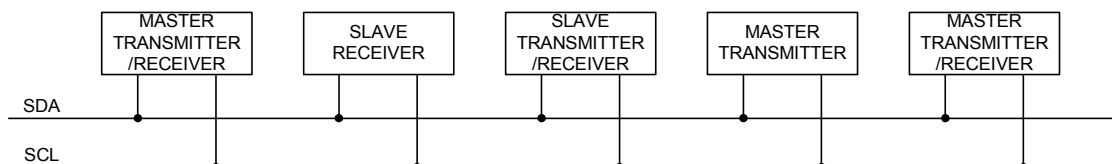
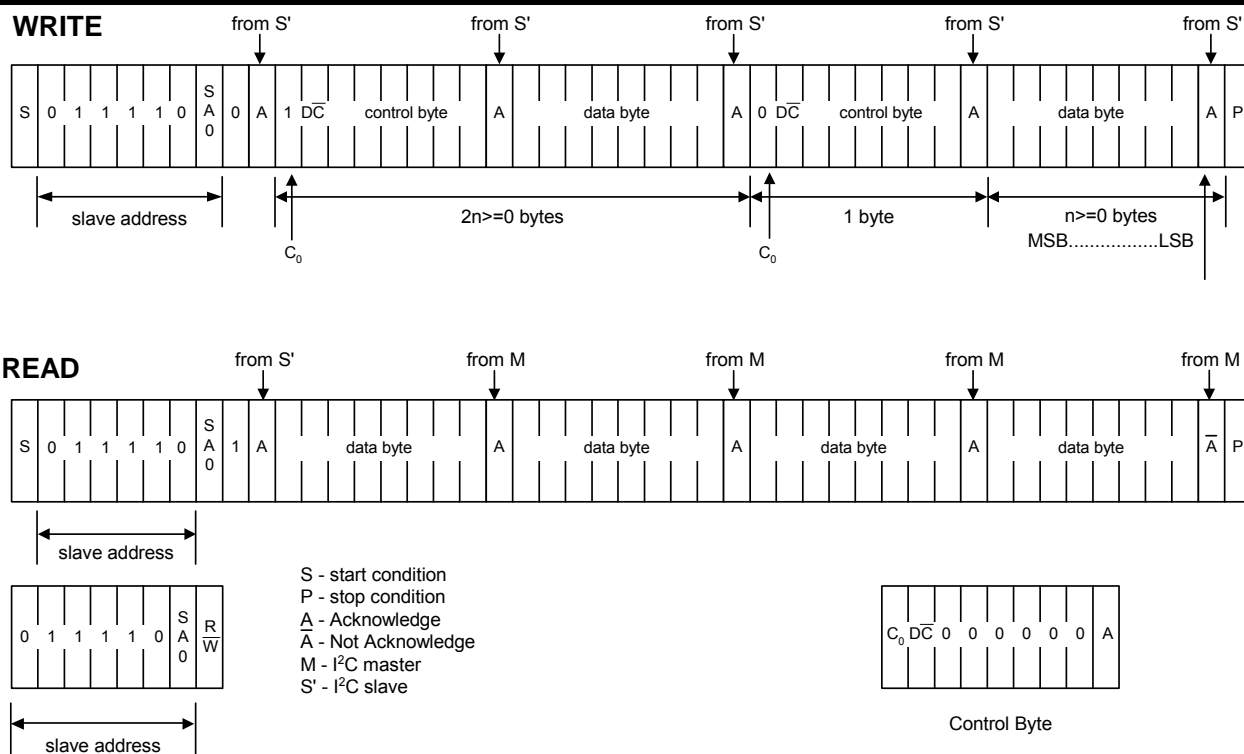

Figure 7 System configuration
Figure 9 I2C Protocol
The SH1108 supports both read and write access. The  $\overline{R/\overline{W}}$  bit is part of the slave address. Before any data is transmitted on the I2C-bus, the device that should respond is addressed first. Two 7-bit slave addresses (0111100 and 0111101) are reserved for the SH1108. The least significant bit of the slave address is set by connecting the input SA0 to either logic 0(GND) or 1 (VDD). The I2C-bus protocol is illustrated in Fig.7. The sequence is initiated with a START condition (S) from the I2C-bus master that is followed by the slave address. All slaves with the corresponding address acknowledge in parallel, all the others will ignore the I2C-bus transfer. After acknowledgement, one or more command words follow which define the status of the addressed slaves. A command word consists of a control byte, which defines Co and  $\overline{D/\overline{C}}$  (note1), plus a data byte (see Fig.9). The last control byte is tagged with a cleared most significant bit, the continuation bit Co. After a control byte with a cleared Co-bit, only data bytes will follow. The state of the  $\overline{D/\overline{C}}$ -bit defines whether the data-byte is interpreted as a command or as RAM-data. The control and data bytes are also acknowledged by all addressed slaves on the bus. After the last control byte, depending on the  $\overline{D/\overline{C}}$  bit setting, either a series of display data bytes or command data bytes may follow. If the  $\overline{D/\overline{C}}$  bit was set to '1', these display bytes are stored in the display RAM at the address specified by the data pointer. The data pointer is automatically updated and the data is directed to the intended SH1108 device. If the  $\overline{D/\overline{C}}$  bit of the last control byte was set to '0', these command bytes will be decoded and the setting of the device will be changed according to the received commands. The acknowledgement after each byte is made only by the addressed slave. At the end of the transmission the I2C-bus master issues a stop condition (P). If the  $\overline{R/\overline{W}}$  bit is set to one in the slave-address, the chip will output data immediately after the slave-address according to the  $\overline{D/\overline{C}}$  bit, which was sent during the last write access. If no acknowledge is generated by the master after a byte, the driver stops transferring data to the master.